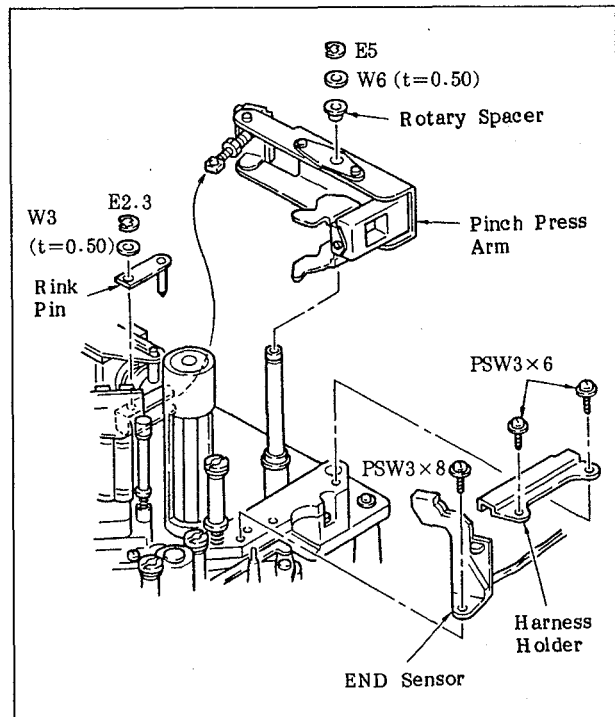

Fig. 6-78 Removal of the Parts
7. Remove the pinch press arm, END sensor, and harness holder by referring to Figure 6-78.